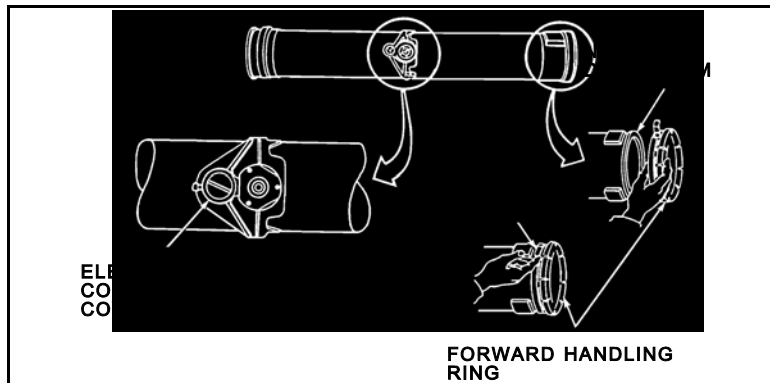

Figure 2. TOW missile.
8. Prepare the TOW missiles for stowage (Figure 2).